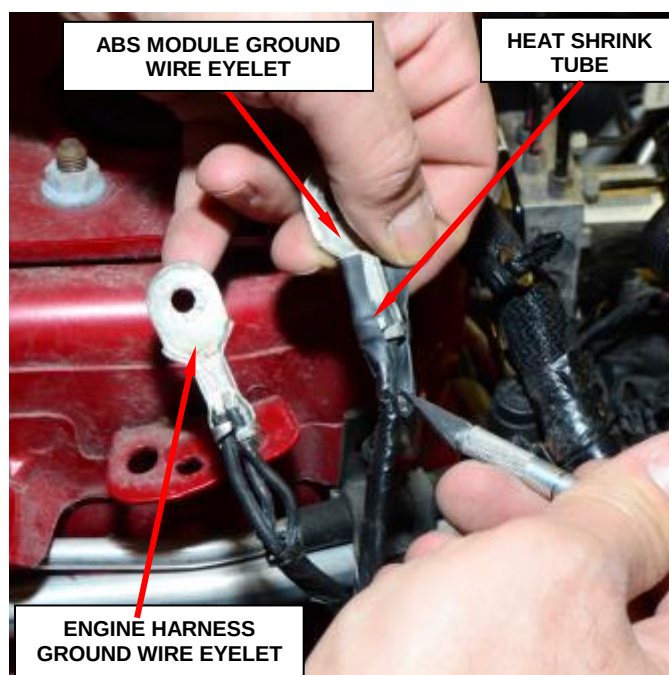

Figure 9 – Heat Shrink Tube
23. Remove the original heat shrink tube from the two ground wire eyelets (Figure 9).